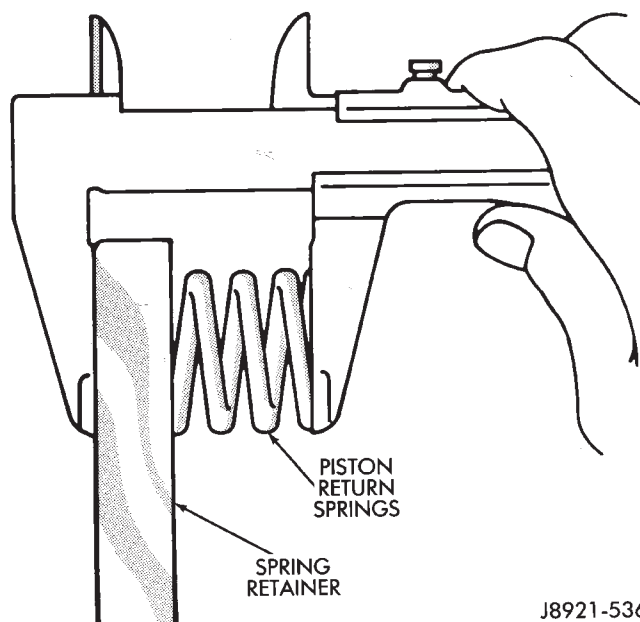

Fig. 16 Checking Piston Return Spring Length
(18) Measure free length of piston return springs with springs in retainer (Fig. 16). Length should be 16.8 mm (0.661 in.).